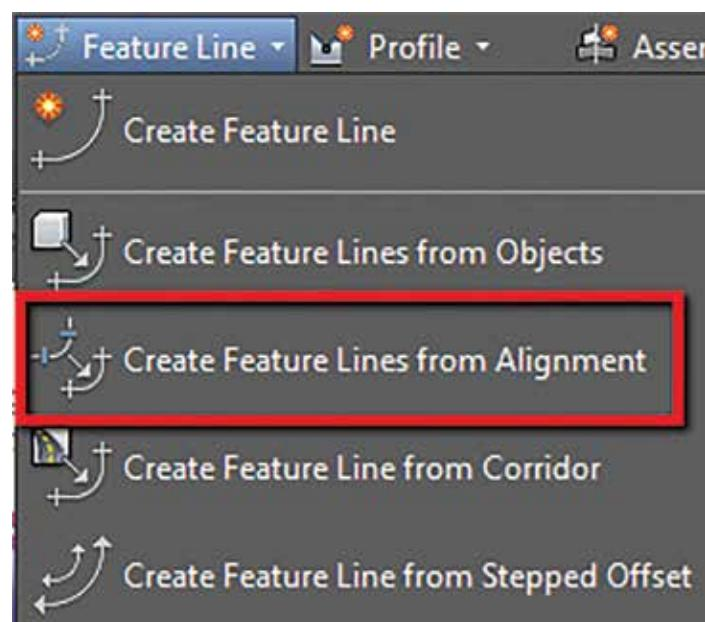

Figure 4
1. From the Home tab > Create Design panel > Feature Line drop-down > Create Feature Lines from Alignment (Figure 4)